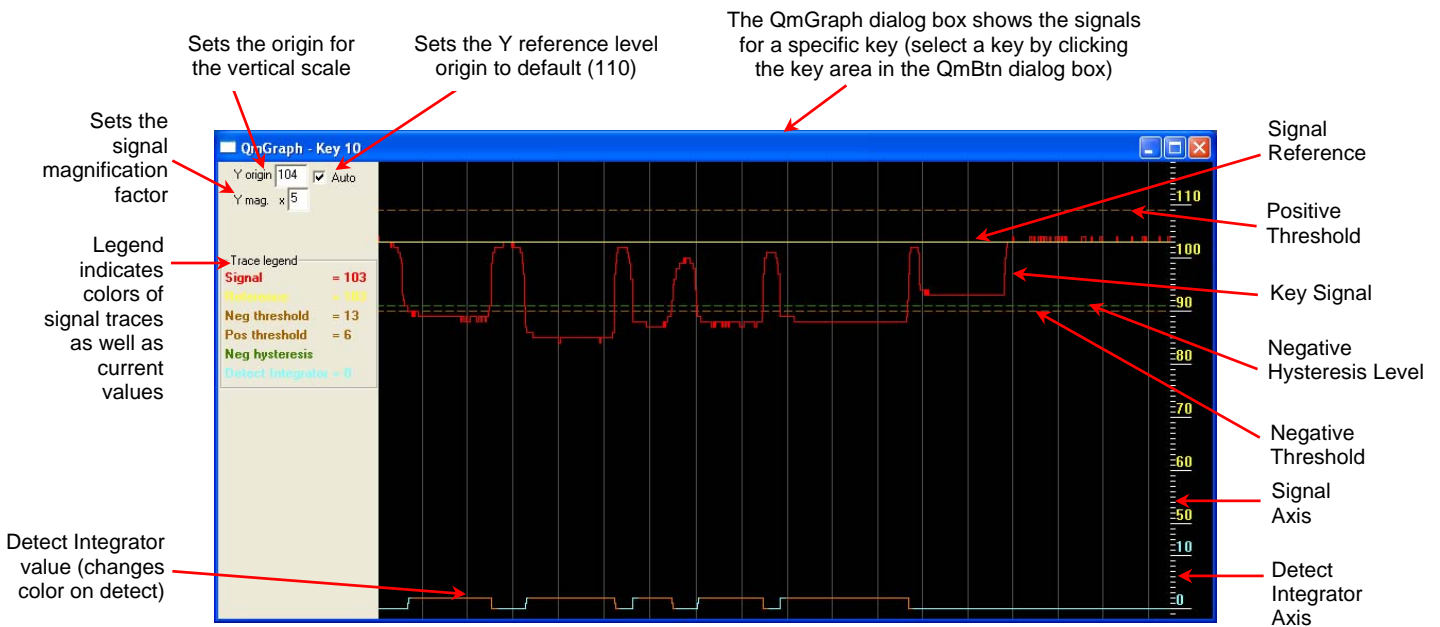

Figure 8: QmGraph Dialog Box
- the **QmGraph** dialog box (which gives real-time signals for individual keys) – see *Figure 8, page 11*